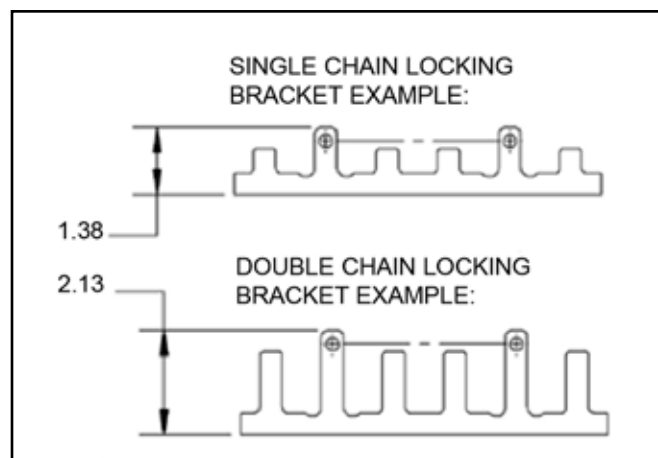

Figure 25.
3. Compare removed bracket with new double lock brackets to identify correct new part. Refer to Figure 25 for example.